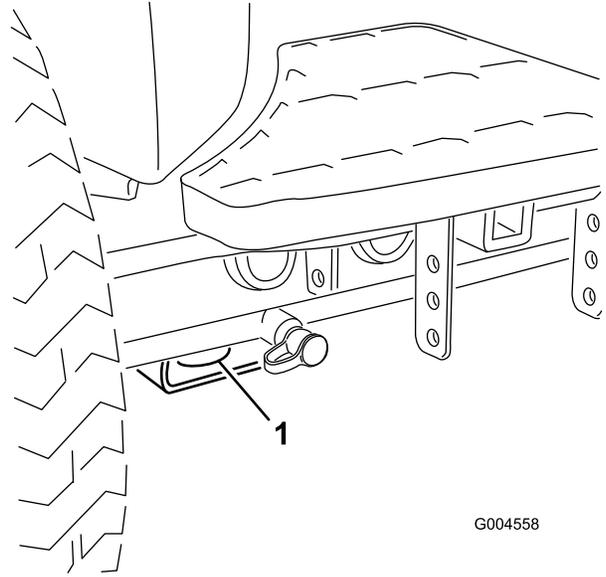

Figure 58
- Front—the hole in the rectangular pad, under the axle tube, inside each front tire (Figure 58).